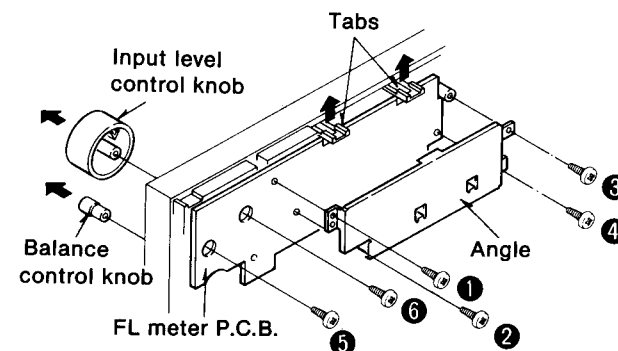

Fig. 2
- Remove the screw (⑦).
- Pull out the input level control knob and the balance control knob. (See the Fig. 2).
- Push the 3 tabs (⑧) and then remove the front panel.
- Push the 2 tabs (⑨).